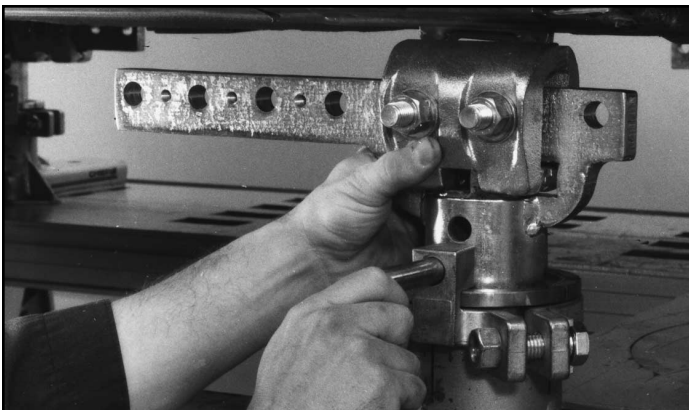

Figure 14
5. Adjust front and rear anchoring stand height so clamps engage (or are just below) rocker panel pinchweld and insert height adjustment pins in appropriate pinning holes. (See Figure 14.)